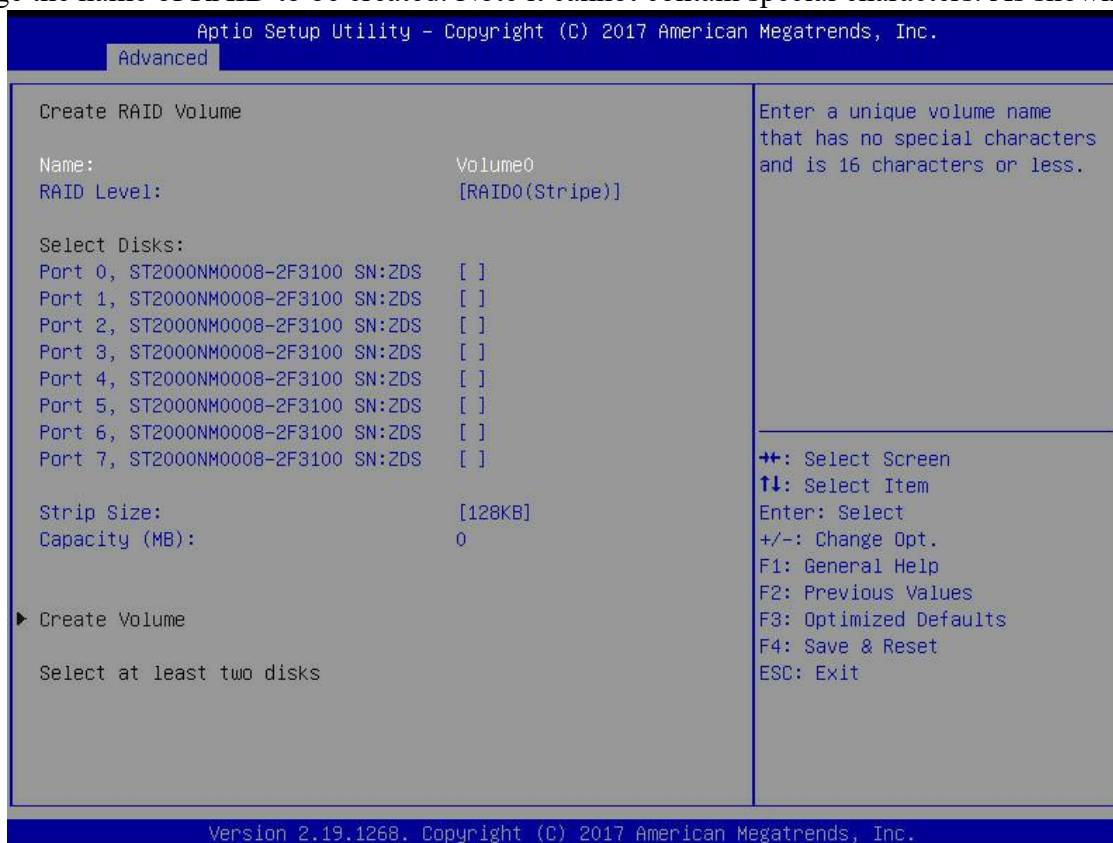

Fig. 6.5
- b) Change the name of RAID to be created. Note it cannot contain special characters. As shown in Fig. 6.5